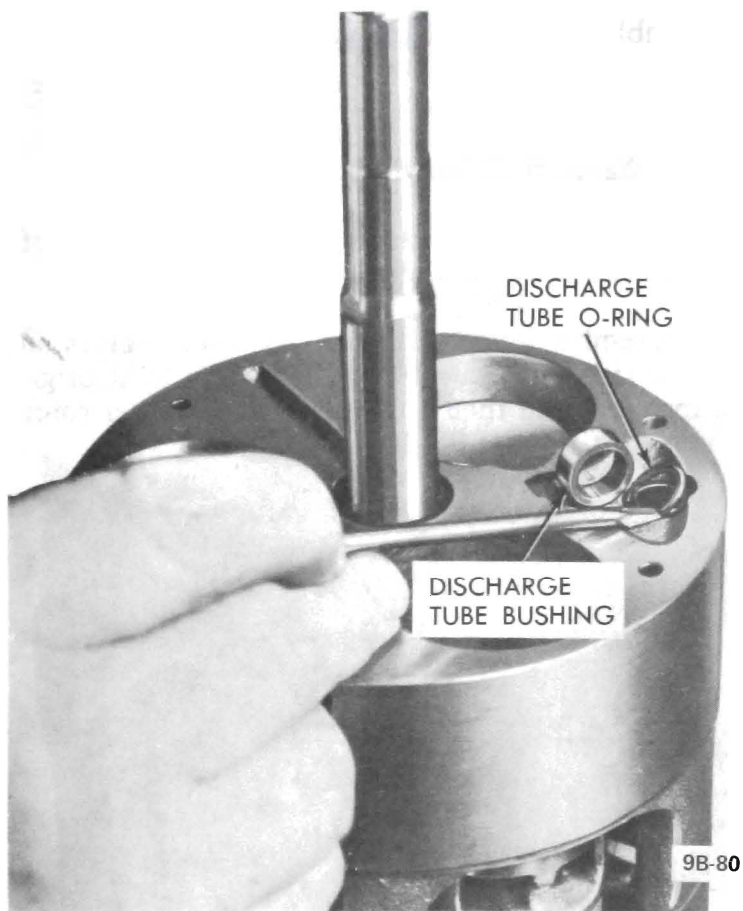

Figure 9B-94 Installing Discharge Tube O Ring and Bushing
1. Assemble suction reed valve disc to front of cylinder assembly and align with dowel pins, suction port and discharge port (see Figure 9B-95).